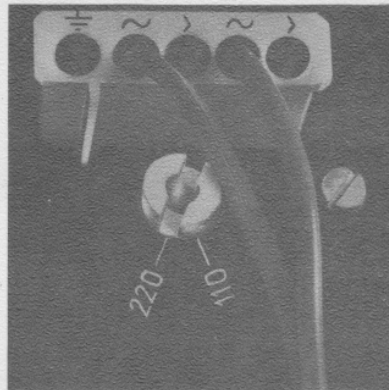

Fig. 2
- B. No. 213 982; AMP-No. 160 565/1 (Fig. 2) for 5-pole power supply plug
If the unit is to be connected to equipment without a power transformer (such as a small radio or some amplifiers), the Dual should be grounded to prevent possible shock. A contact is available for this purpose on the power connector. (Figs. 2 and 3).